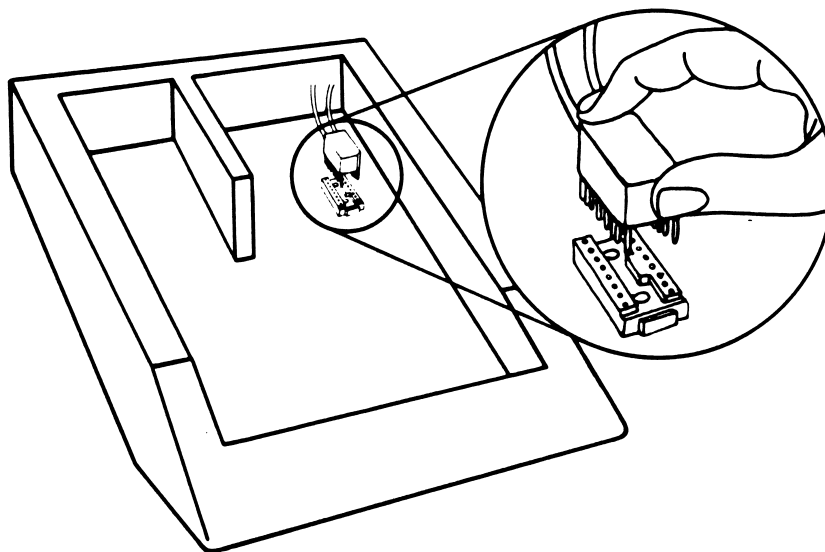

Figure 1
2. Remove the cover from the computer. Plug the temperature-probe connector through the back slot into the game-paddle input as shown in Figure 1. Insert the temperature probes into the extender cables. One cable and one probe will be coded with black; the other will be coded with red. Make sure you insert the black probe into the black extender cable coming from the computer. Insert the red probe into the red extender cable. From now on the black probe will be referred to as probe one and the red probe as probe two. Replace the cover.